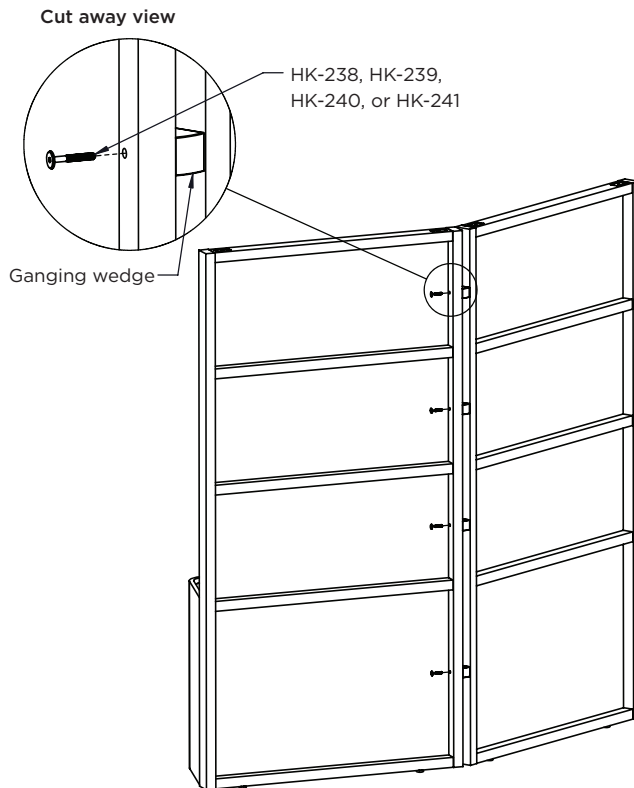
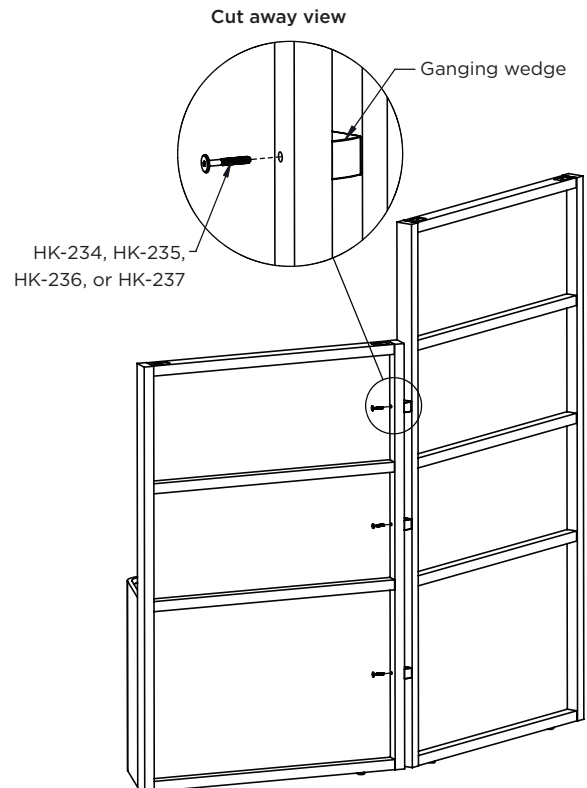

Figure 5F
Figure 5G
**Note:** Reference **Figure 5F** for 90"h to 90"h planters and **Figure 5G** for 90"h to 72"h planters
**Note:** Reference **Figure 5F** for 90"h to 90"h planters, and **Figure 5G** for 90"h to 72"h planters